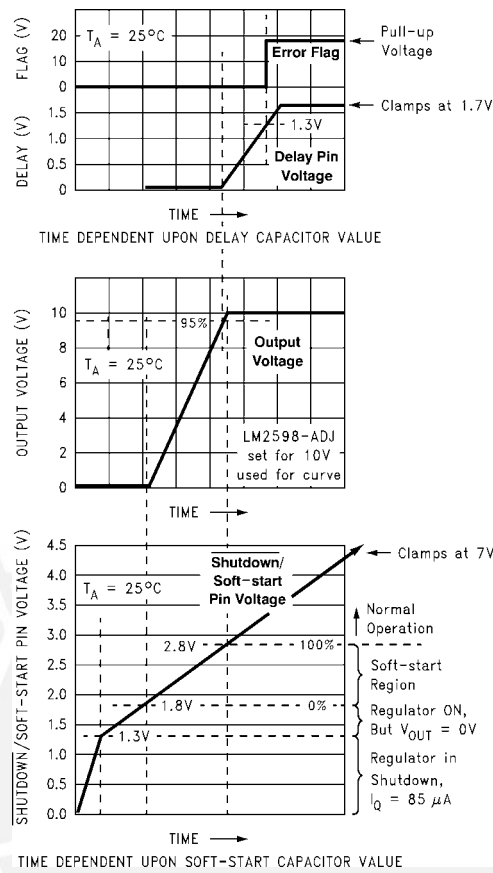
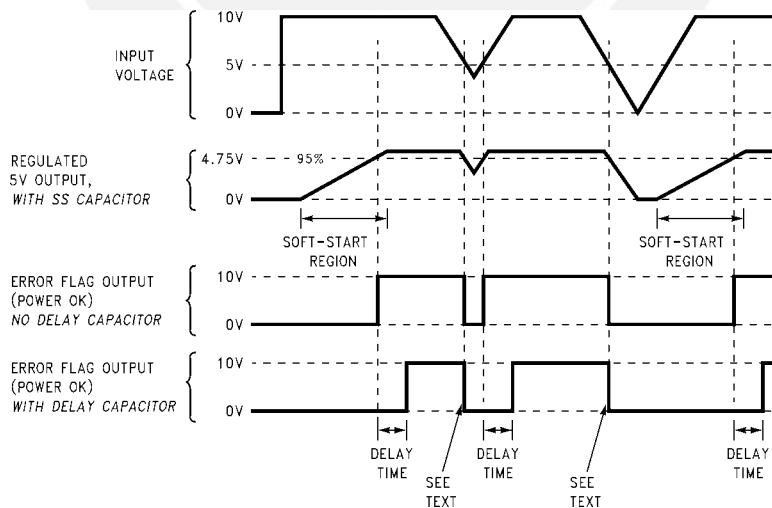

Figure 28. Soft-start, Delay, Error, Output
Figure 29. Timing Diagram for 5-V Output
A capacitor on this pin provides the regulator with a Soft-start feature (slow start-up). When the DC input voltage is first applied to the regulator, or when the Shutdown/Soft-start pin is allowed to go high, a constant current (approximately 5  $\mu$ A begins charging this capacitor). As the capacitor voltage rises, the regulator goes through four operating regions (See the bottom curve in Figure 28).
3. Soft-start region: When the  $\overline{SD/SS}$  pin voltage is between 1.8 V and 2.8 V at 25°C, the regulator is in a Soft-start condition. The switch (Pin 1) duty cycle initially starts out very low, with narrow pulses and gradually get wider as the capacitor  $\overline{SD/SS}$  pin ramps up towards 2.8 V. As the duty cycle increases, the output voltage also increases at a controlled ramp up. See the center curve in Figure 28. The input supply current requirement also starts out at a low level for the narrow pulses and ramp up in a controlled manner. This is a very useful feature in some switcher topologies that require large start-up currents (such as the inverting configuration) which can load down the input power supply.
Note: The lower curve shown in Figure 28 shows the Soft-start region from 0% to 100%. This is not the duty cycle percentage, but the output voltage percentage. Also, the Soft-start voltage range has a negative temperature coefficient associated with it.
Provides delay for the error flag output. See the upper curve in Figure 28, and also refer to timing diagrams in Figure 29. A capacitor on this pin provides a time delay between the time the regulated output voltage (when it is increasing in value) reaches 95% of the nominal output voltage, and the time the error flag output goes high. A 3- $\mu$ A constant current from the delay pin charges the delay capacitor resulting in a voltage ramp. When this voltage reaches a threshold of approximately 1.3 V, the open collector error flag output (or power OK) goes high. This signal can be used to indicate that the regulated output has reached the correct voltage and has stabilized.